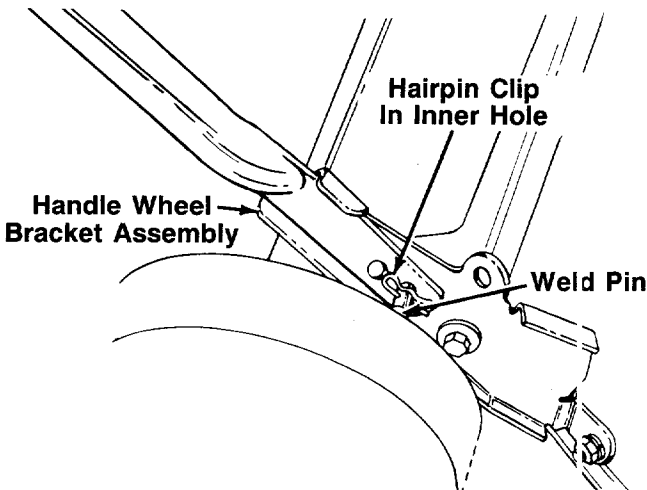

FIGURE 1.
2. Attach the lower handle by placing the bottom holes in the lower handle over the weld pins on the handle wheel bracket assemblies on the rear of the deck. Make certain the instruction label on the lower handle can be read from the operating position. Secure by placing two hairpin clips in inner hole on weld pins. See figure 1.